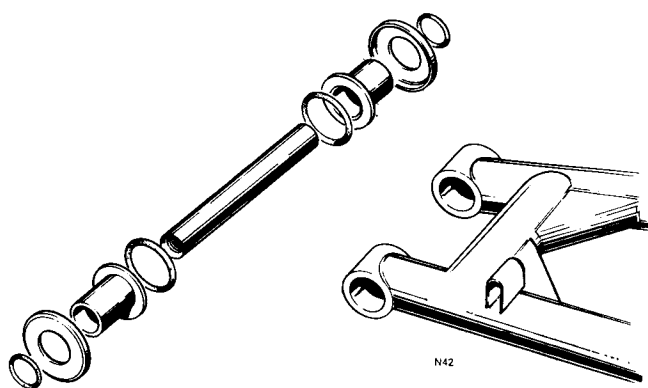

Fig. F10 Swinging arm bushes showing order of assembly
- 1 If not displaced during removal of the fork, lift out the outboard 'O' rings (see *Fig. F10*).
- 4 Place the dust cover over the bush as in *Fig. F10* and press the bush in fully.